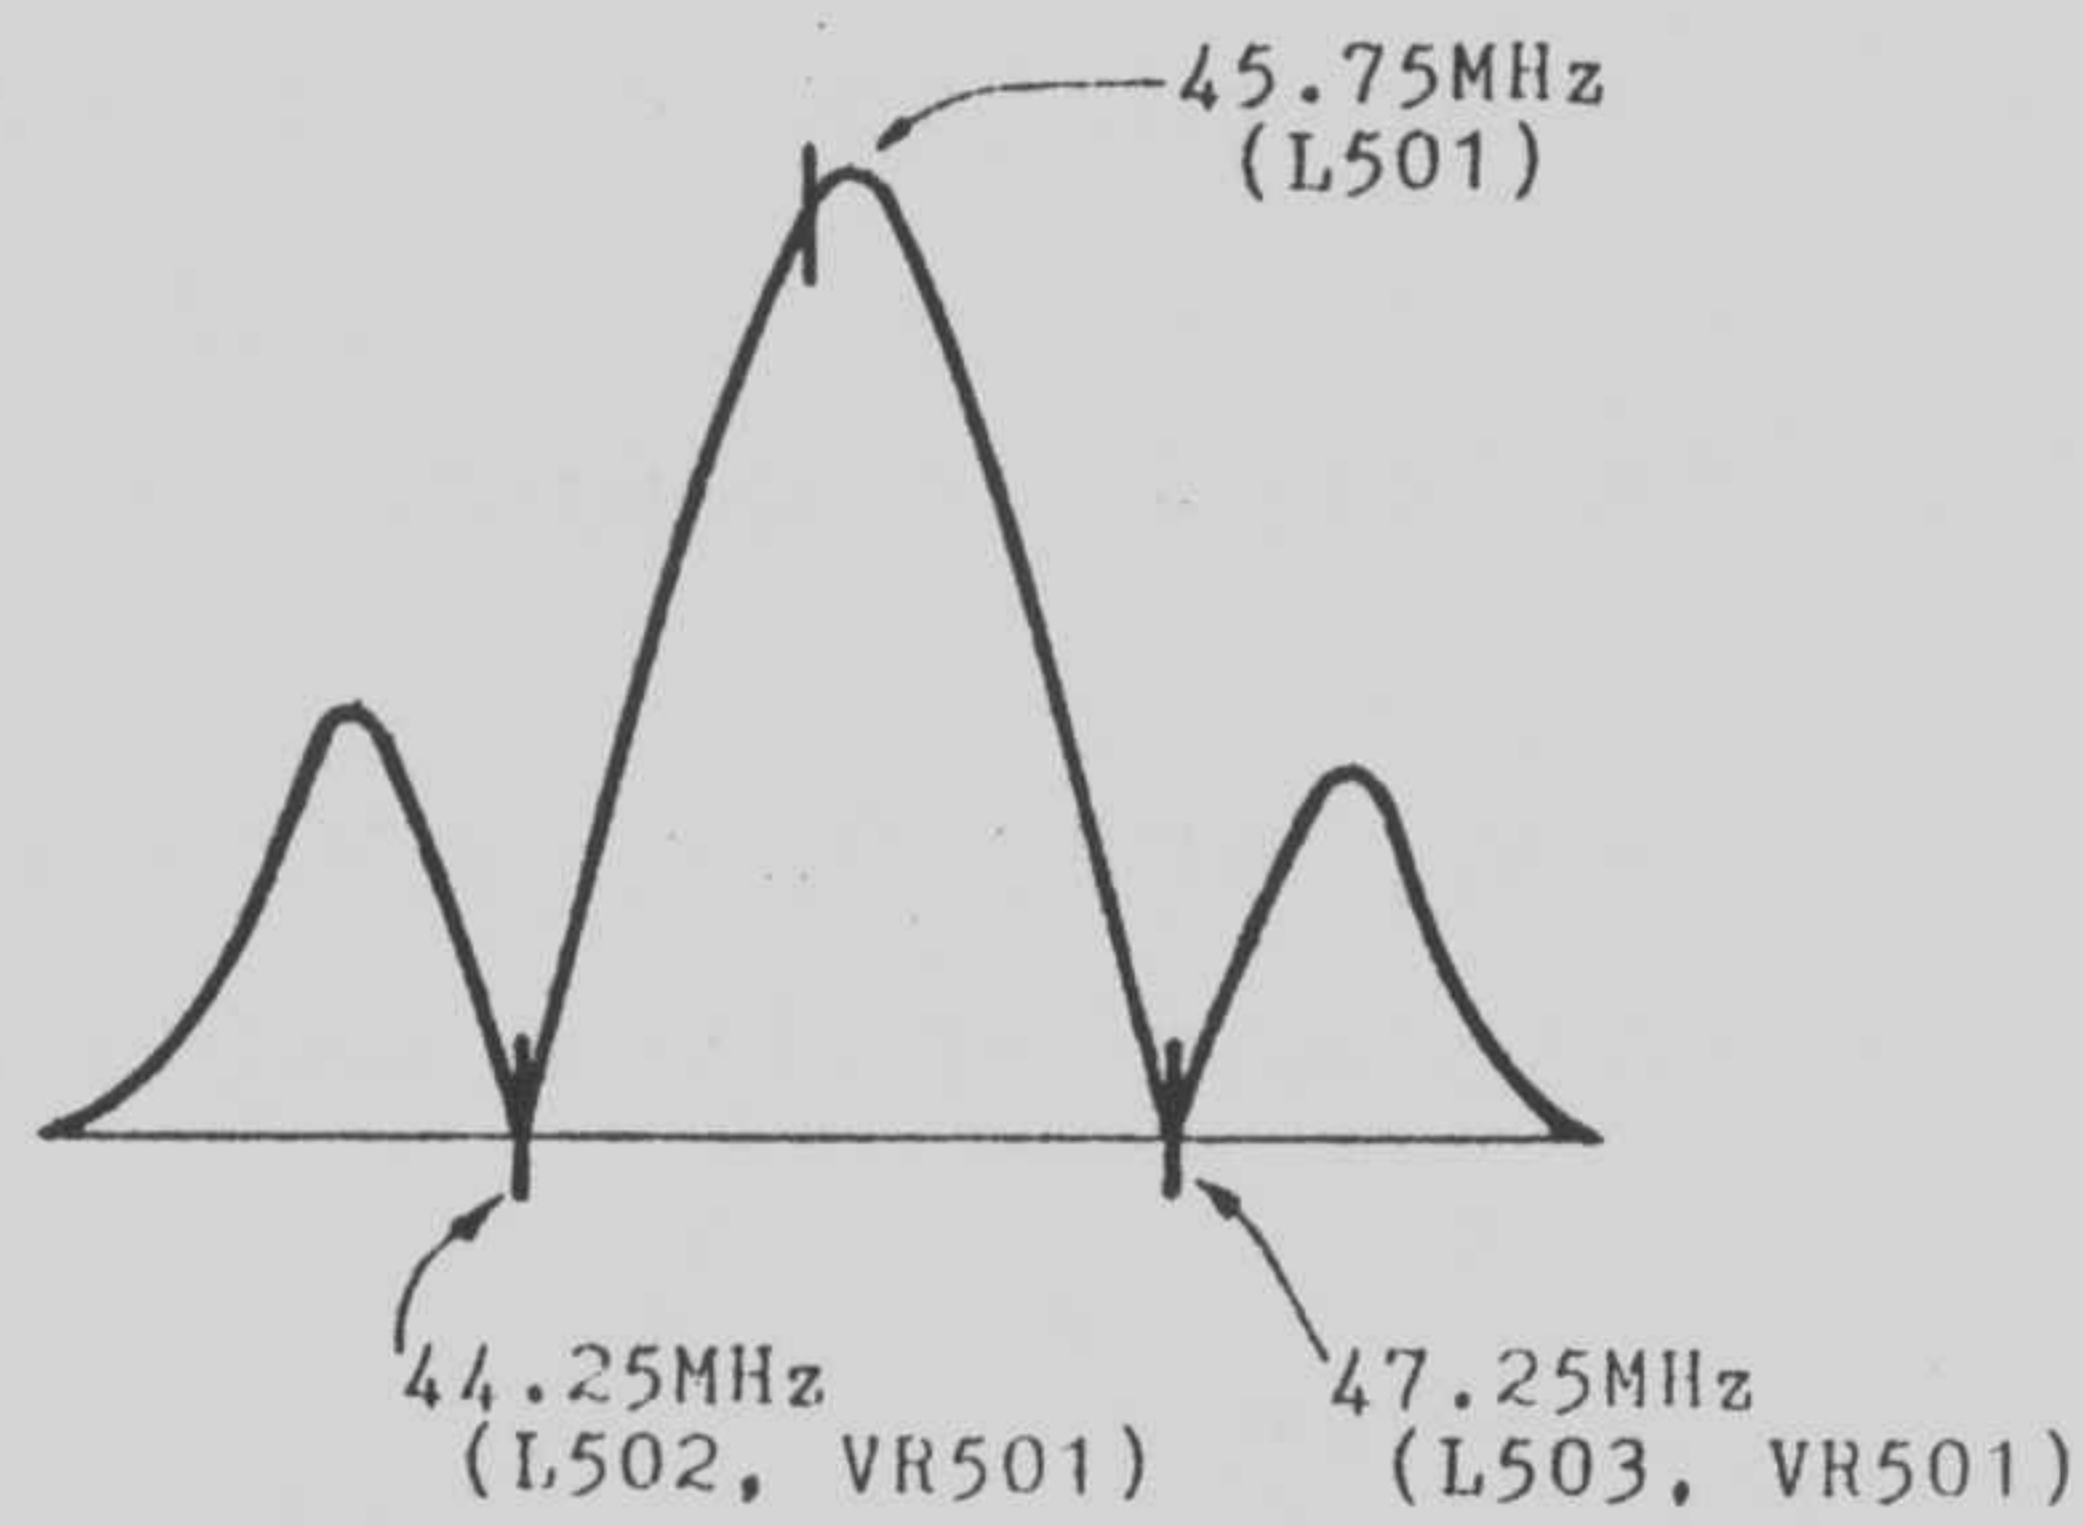

Figure-6
b) Adjust the following adjustments to obtain a frequency response as shown in Figure-6.